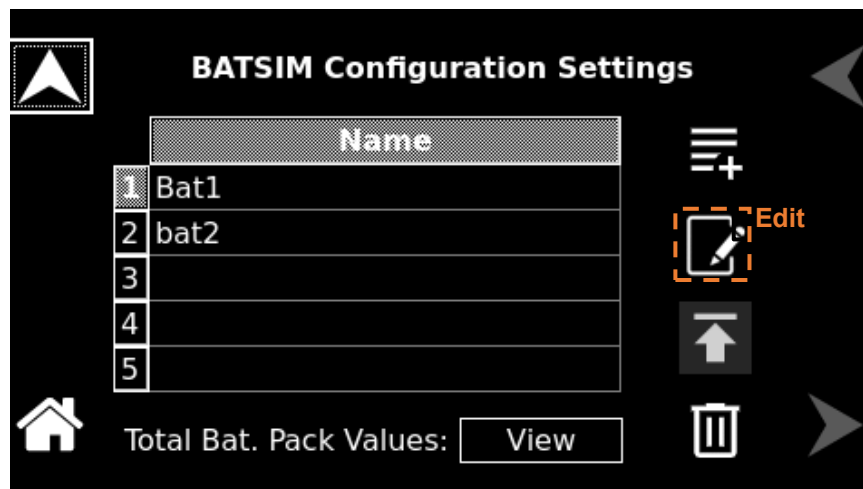

**Figure 12-17. Cut- Off Conditions Settings**
- The selected configuration name will be displayed at the top of the screen when the 'Edit' option is clicked. Refer to Figure 12-17.
- The functions available in 'Screen 1' are 'Full Volt', 'Empty Volt', 'Parallel', 'Capacity', 'Inner Res. ' and 'Series '. Refer to Figure 12-17.